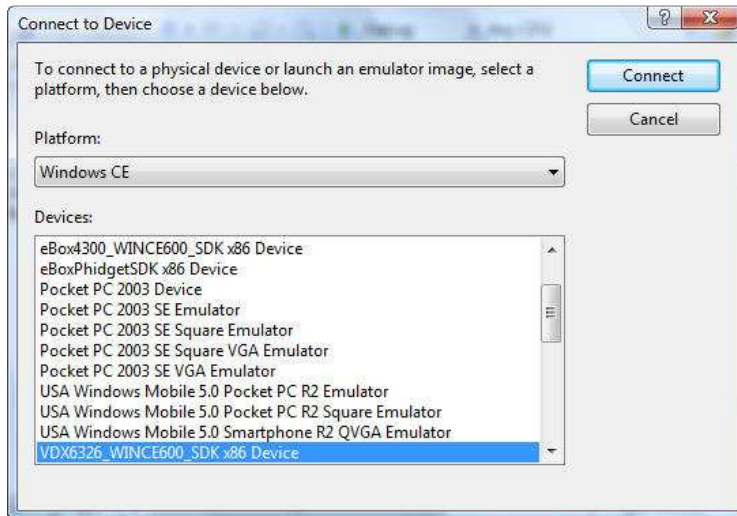

Fig. M10 - Connect to device
- From VS2008 IDE, select **Tools | Connect to device...** and select **VDX6326_WINCE600_SDK** from the list of available devices, and click on the **Connect** button, as shown in Figure M10.